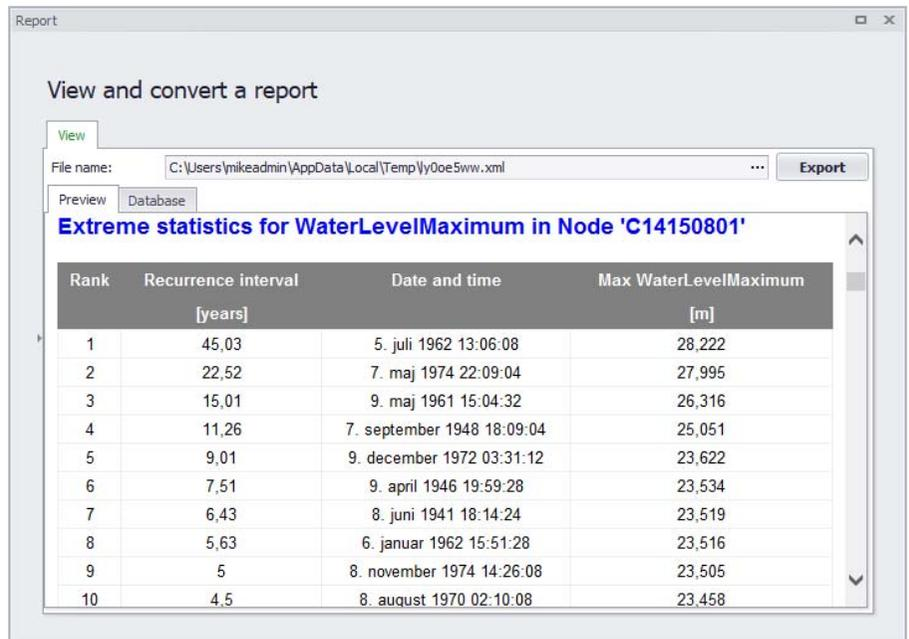

Figure 19.66 Example detailed LTS extreme event statistics report
- Click on the ‘OK’ button to create a new Detailed LTS Extreme Event Statistics report. An example is shown in Figure 19.66.